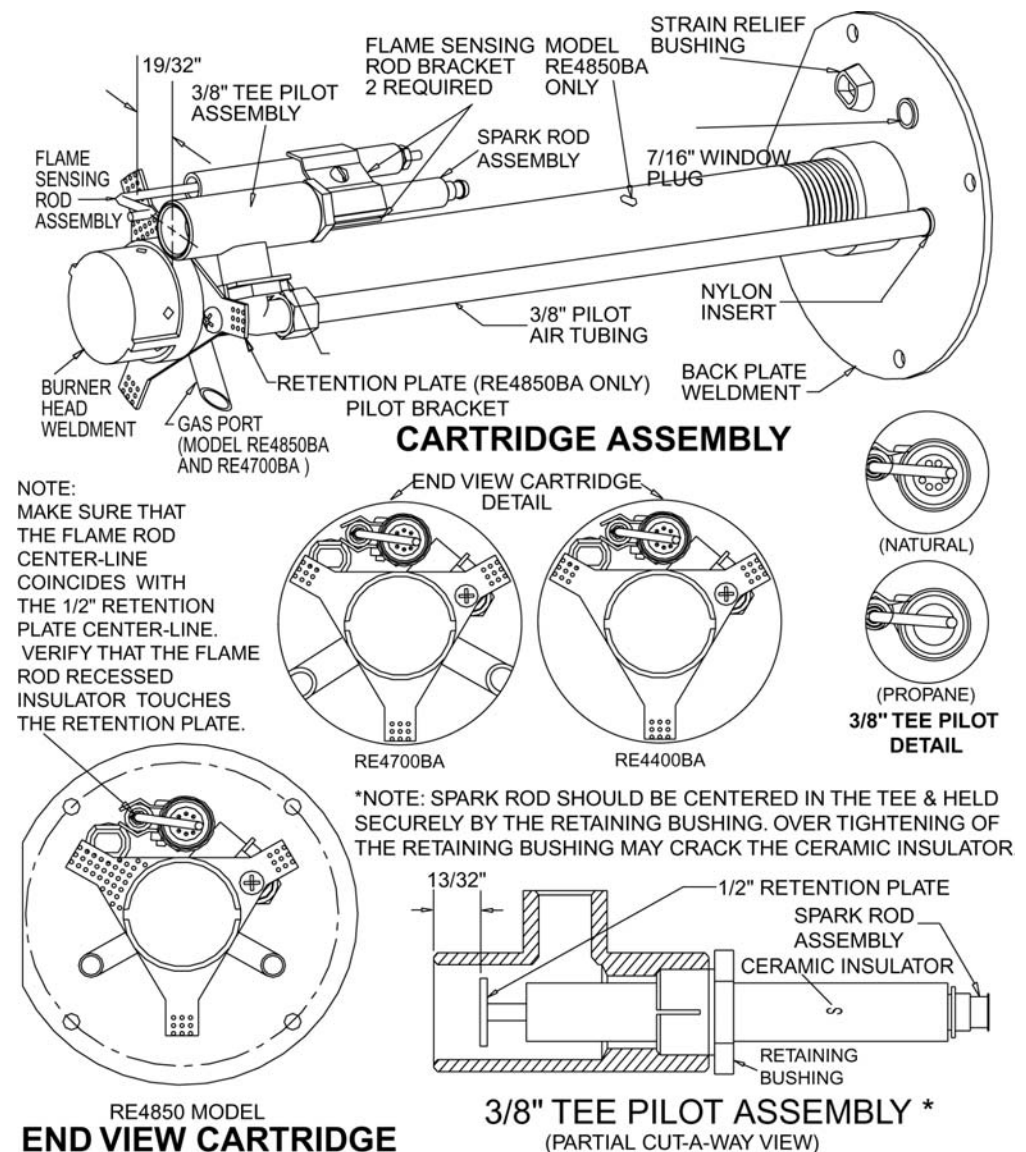

Figure 7A: General Assembly for RE4850BA, RE4700BA and RE4400BA
⚠ CAUTION: Make sure that the natural gas burner has the correct spark rod retention plate before operating the burner. See "Replacement Parts Lists" if replacement is needed. The 1/2" retention plate is centered in the 3/8" Tee pilot and is positioned so the high tension voltage will arc to the inside of the 3/8" Tee pilot. (See Figure 7A and 7B).
- The flame sensing rod must be positioned as shown in Figures 7A and 7B so that the Ignition Control Module will detect a proper flame.
- The pilot air tubing must be kept free of kinks or inside obstructions and must be positioned per Figures 7A & 7B, otherwise air flow could be reduced and adversely affect the pilot flame.